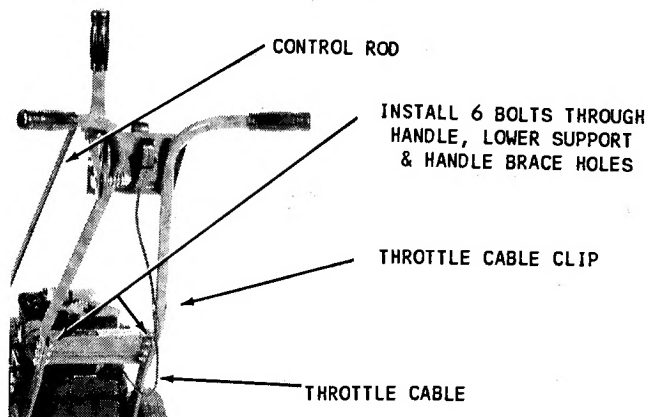

FIG. 1
1. Remove handle brace, nuts, and bolts. Align the handle, lower support, and handle brace holes. Use all six nuts and bolts. Leave bolts loose until Steps 2 and 3 are completed (Fig. 1).
2. Install control rod into upper and lower pivot bearings and secure with cotter pins (Fig. 1). Oil pivots lightly before installing rod.
2. Route throttle cable conduit below spacer panel between frame uprights. (From inner side, toward engine) (Fig. 1).
6. Clip for the throttle cable should secure cable to handle (Fig. 1).
7. Soak grips in warm water then place on end of handle (Fig. 1).